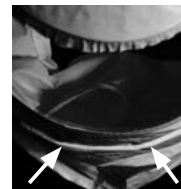

Figure 27
6. Ensure that the neck cuff is down below the chin and that the air outlets of the cuff (see Figure 27) are not restricted. If the neck cuff is not below the chin, then pull down before continuing (See Figure 28).
6. Ensure that the neck cuff is down below the chin and that the air outlets of the cuff are not restricted. If the neck cuff (see Figure 27) is not below the chin, then pull down before continuing (See Figure 28).